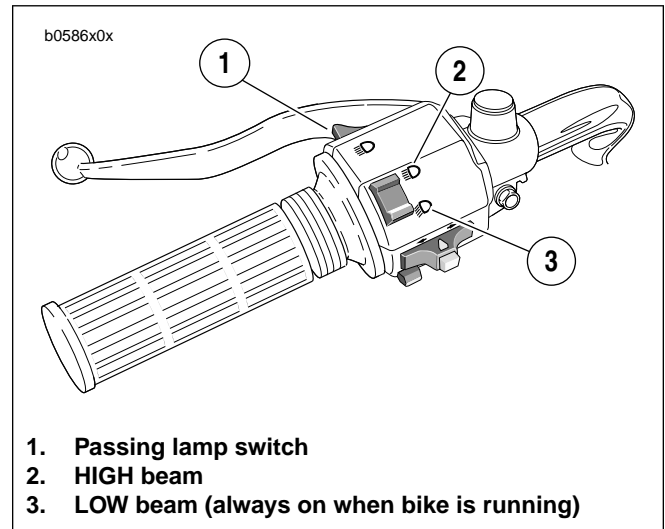

Figure 7-52. Headlight Controls
6. See Figure 7-52. Check headlight for proper operation. If operation fails, reread procedure and verify that all steps were performed.
- b. Check headlight LOW (3) and HIGH beam (2) settings.
- c. Set headlight to LOW beam. Press passing lamp switch (1). Headlight should flash HIGH beam for as long as the switch is pressed.